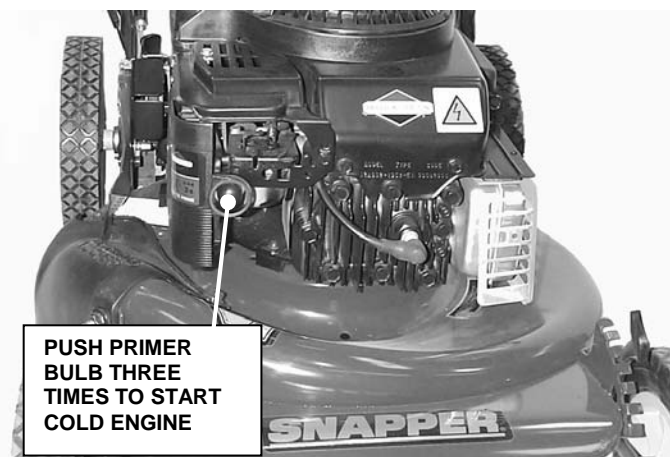

FIGURE 2.3
2. Push primer bulb three times to start a cold engine. **NOTE:** Do not use primer bulb to start warm engine. See Figure 2.3.